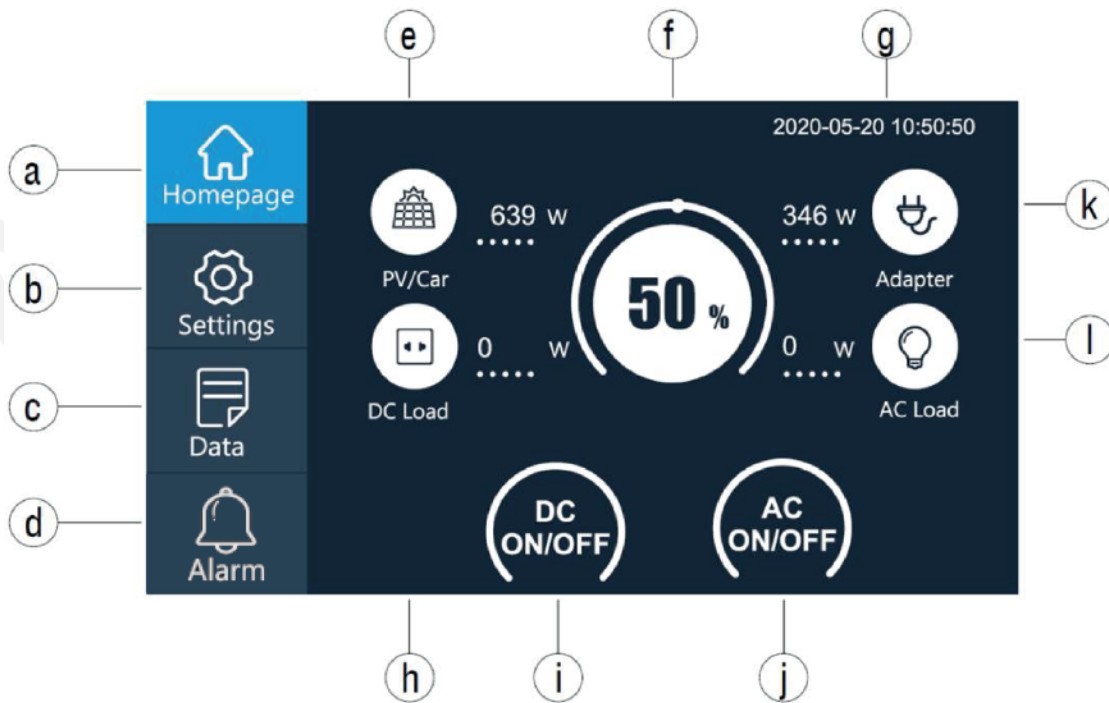

Figure 1
(3) DC power switch and AC power switch are integrated in the interaction LCD screen(Figure 1),press“DC ON/OFF”button and “AC ON/OFF”button on the screen to turn on/off the DC /AC output.
(3) Return to the main interface (Figure 1), click the “Data” button to enter the page (Figure 4) :
(4) Return to the main interface and click the fault button (Figure 1) to view the current fault information: the fault button will display orange if there is a fault, click to enter the corresponding fault information, then the gray light will turn into orange.